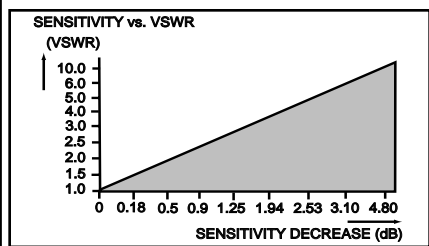

figure 3: Sensitivity vs. VSWR
1. For BER of 10⁻⁵ @ 4800 baud. Sensitivity is affected by antenna SWR. See figure 3.